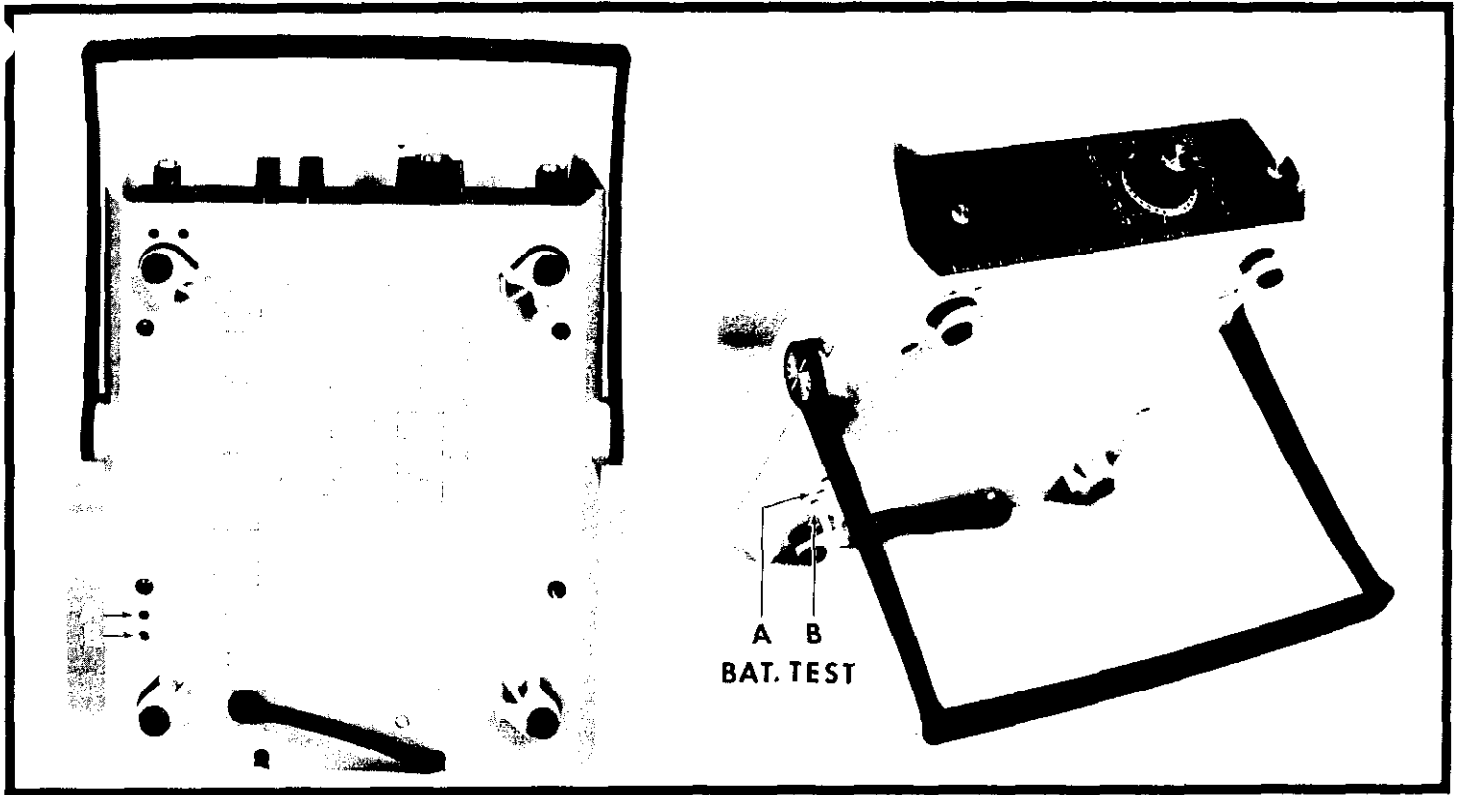

FIGURE 9. Battery Test Location.
**2. How to Check Batteries.** (Valid only in BAT mode). The Model 160B provides two test points (A and B) located on the bottom of the instrument as shown in Figure 9. These test points permit a convenient check of the condition of the internal Battery Pack without need to remove the Model 160B cover. The voltage at test points A or B may be measured using the Model 160B or any other comparable voltage measuring instrument. To check the voltages at test points A or B, select the BAT mode, connect the HI terminal of the Model 160B (for a self check) or other voltmeter to test points A or B and observe the measured voltage. (If a separate voltmeter is used, it is necessary to make a connection to the LO terminal of the Model 160B since both points A and B are to be referenced to circuit low.) Table 2-3 gives the battery voltages required at each test point.